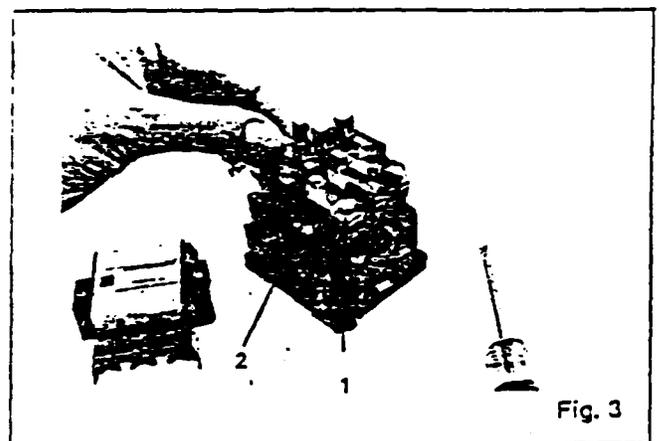

Fig. 3
See Fig. 3. To replace the stationary contacts, loosen terminal screw (1) but do not remove screw from terminal. Remove the contact complete with its screw (2). Firmly tighten the replacement contact. Remove movable contact by rotating it 90° and pulling it straight out. Insert contact by gently pushing it below the spring retainer.